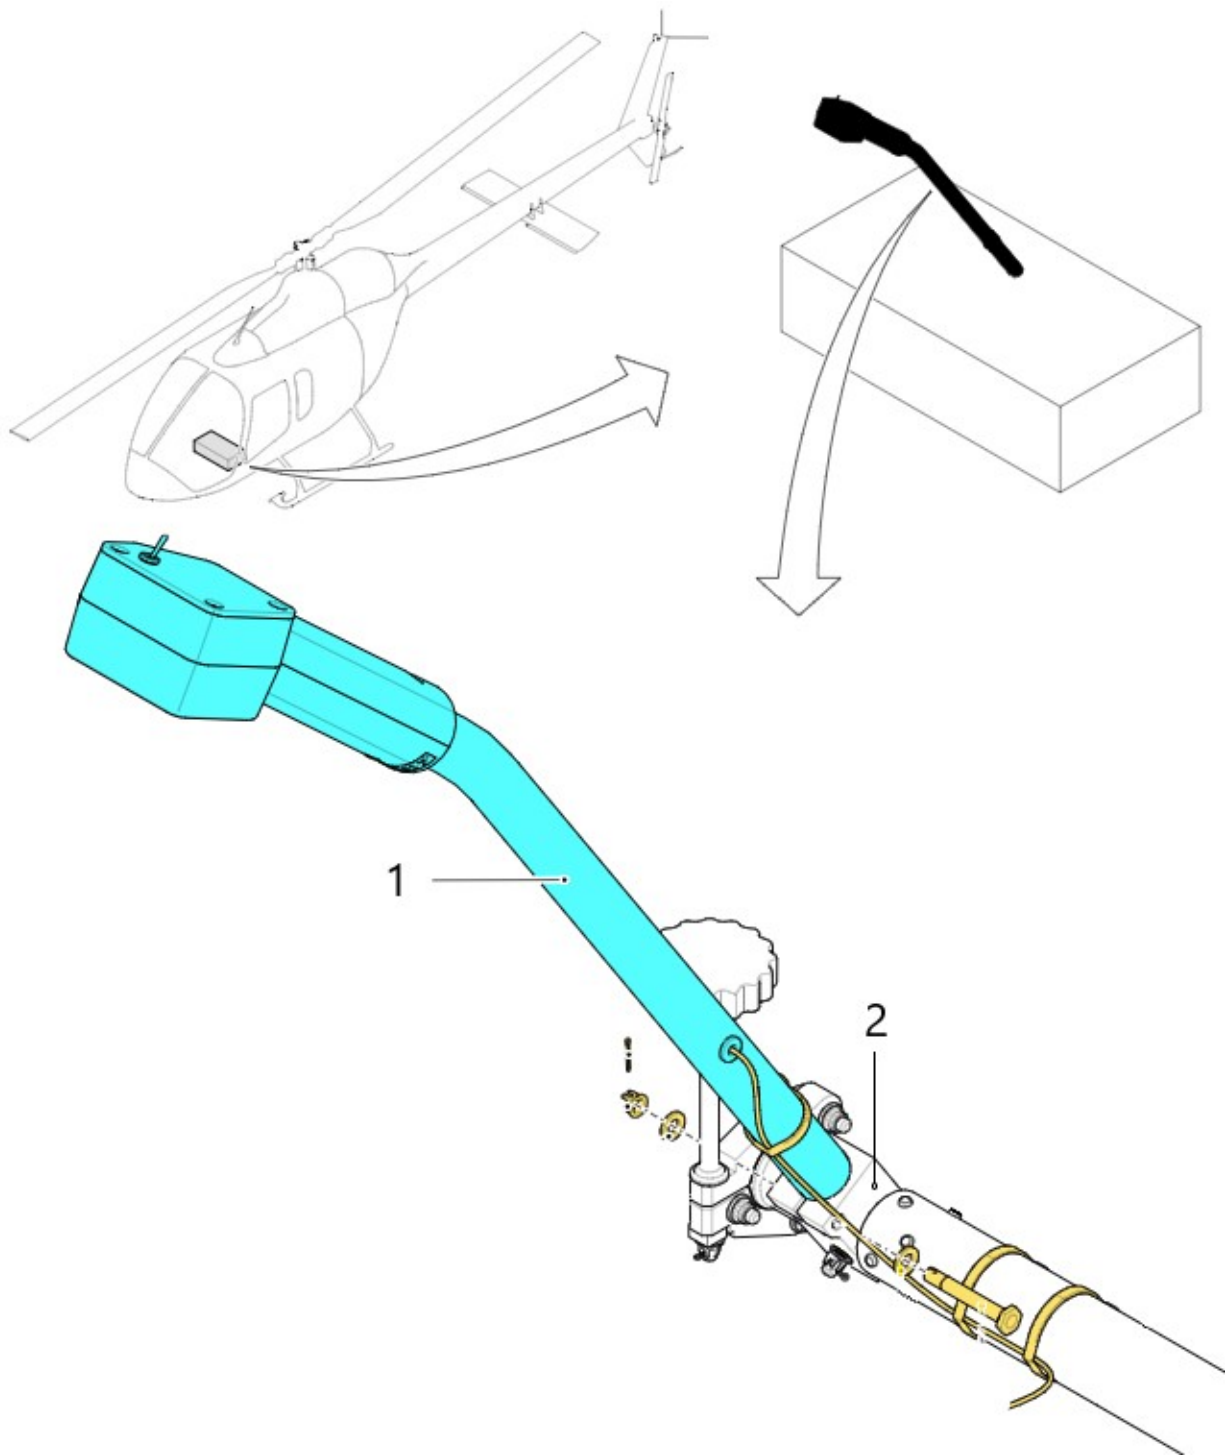

FIGURE 1 – Pilot Collective Stick and Jackshaft Assembly
3. Remove pilot collective stick and grip assembly (1, Figure 1) (DMC-505-A-67-11-01-00A-520A-A) from jackshaft assembly (2).